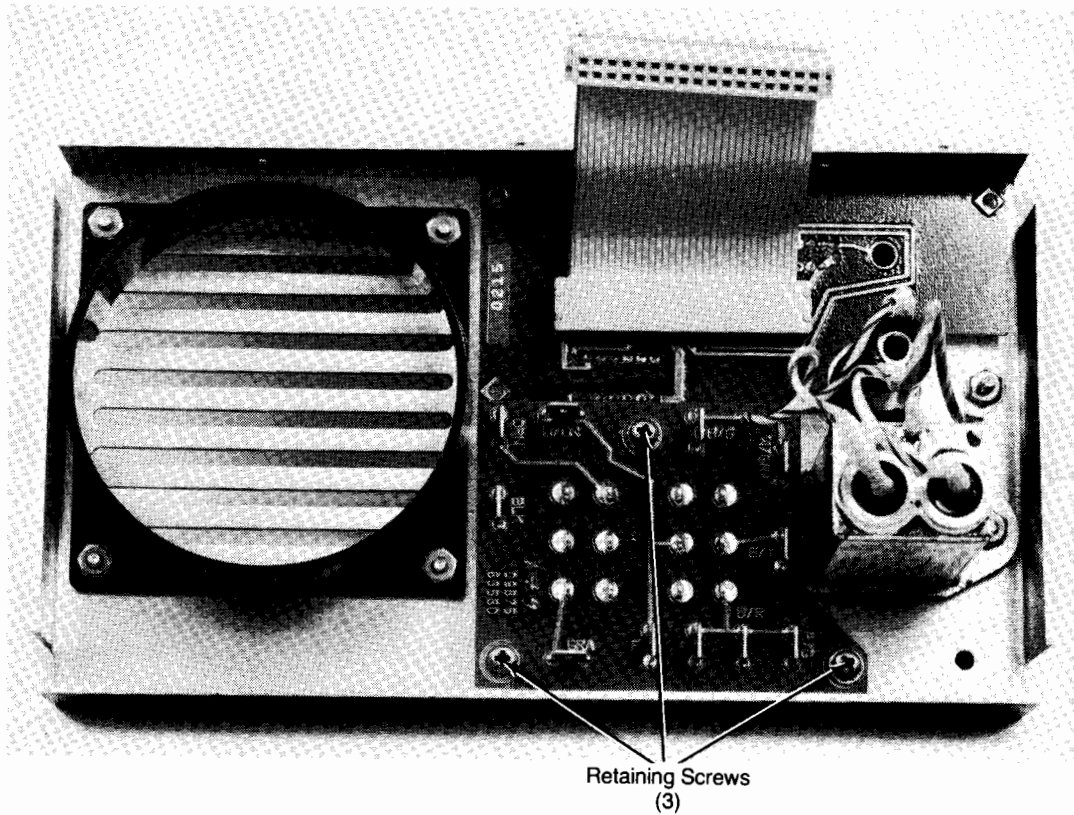

Figure 4-14: Voltage Switchboard Removal
The Voltage Switchboard can be removed from the rear panel assembly by removing the three (3) retaining screws as shown in Figure 4-14.